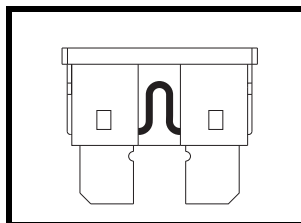

Figure 24. Working Fuse
2. Examine the fuse to be sure it is blown. See figures 24 and 25.